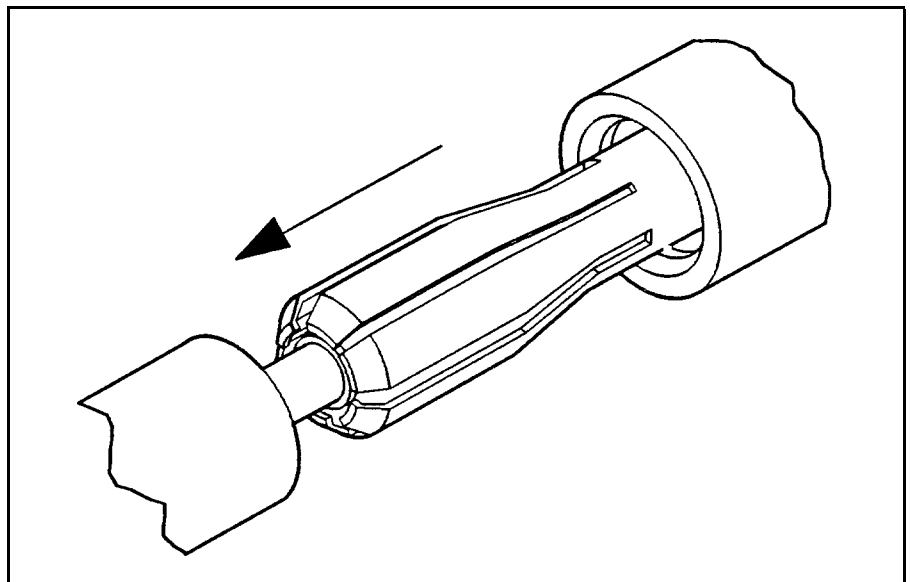

Figure 2-11. Removing the Inner Contact
- d. Once the tool is engaged by 2 turns, you can remove the inner contact. Pull the tool and inner contact straight out away from the center conductor (see Figure 2-11).